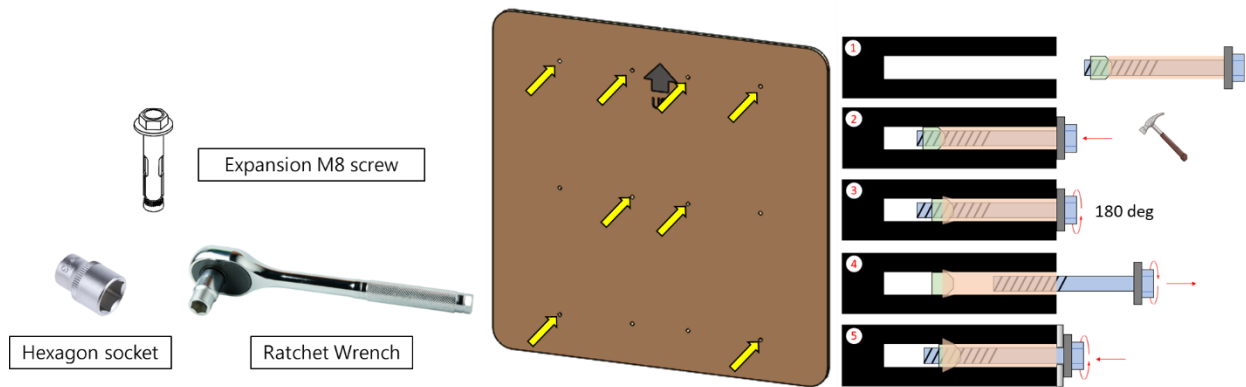

Figure 3-2 Alignment Plate and Wall Bracket
3. Fasten the holster on cement wall. (Refer to the steps of fig. 3-2)